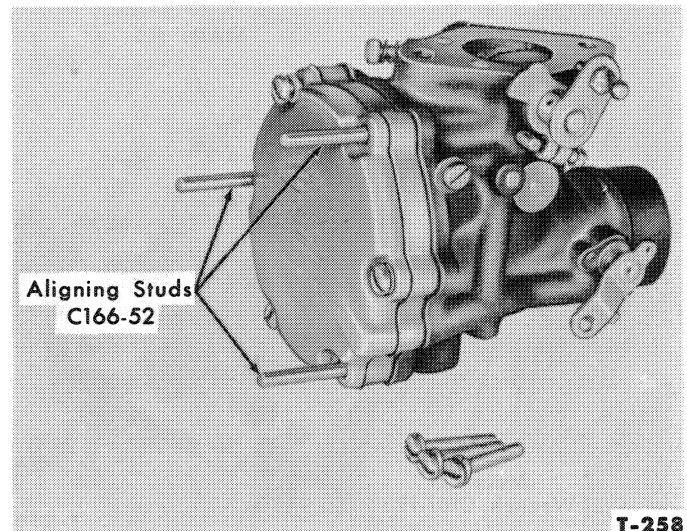

Figure 12—Installing Diaphragm
7. Install the three Aligning Studs C 166-52 in the carburetor as shown in Figure 12. Position the gasket on the studs making sure that the vacuum channel hole and the vent channel hole in the gasket are in alignment with the passages in the carburetor. Install the inner diaphragm (15), Figure 6, on the studs with the spacer cup out. Install the diaphragm spacer (16) with the recessed side out. Install the outer diaphragm